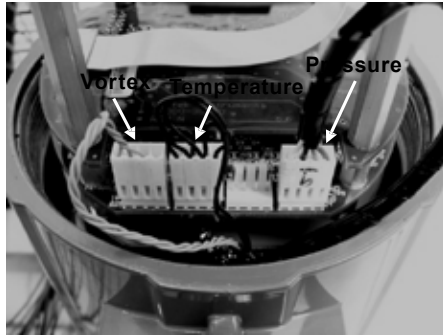

Fig. 59 Electronics stack sensor connections
3. Locate the sensor harnesses which come up from the neck of the flowmeter and attaches to the circuit boards. Make note of the location of each sensor connection. Refer to Figures 59 and 60. The vortex sensor connection is on the left, the temperature sensor connection (if present) is second from the left, and the pressure sensor connection (if present) is the right most connector. Use small pliers to pull the sensor wiring connectors off of the circuit boards.